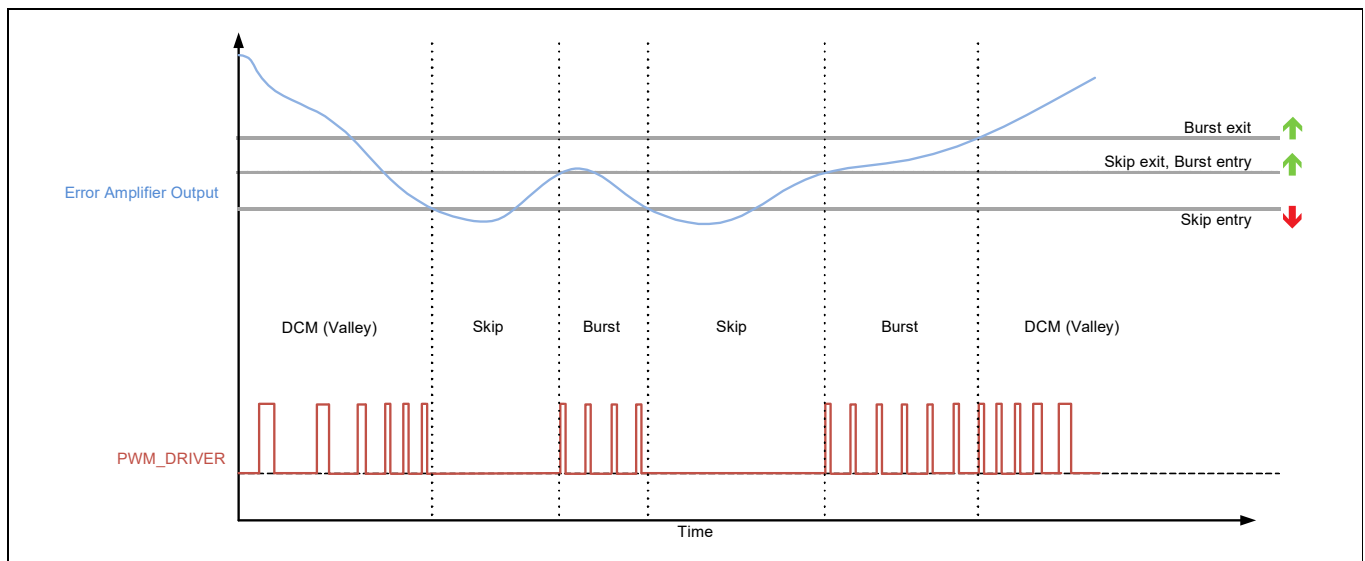

Figure 7 Error amplifier output vs modes of operation
EZ-PD™ PAG1S supports multiple modes of operation: Quasi-Resonant (QR) or Critical Conduction Mode (CrCM), Valley Switching, Discontinuous Conduction Mode (DCM), and Burst mode for light load operations. Analog PWM smart algorithm allows the operation to automatically transition between modes based on the output power requirement. The mode of operation stays in CrCM for higher loads, moves to DCM for medium loads and switches to pulse skip or burst mode for low and ultra-low power loads (see Figure 7). There are configurable options for minimum/maximum pulse width, minimum/maximum period and pulse skip or burst levels.